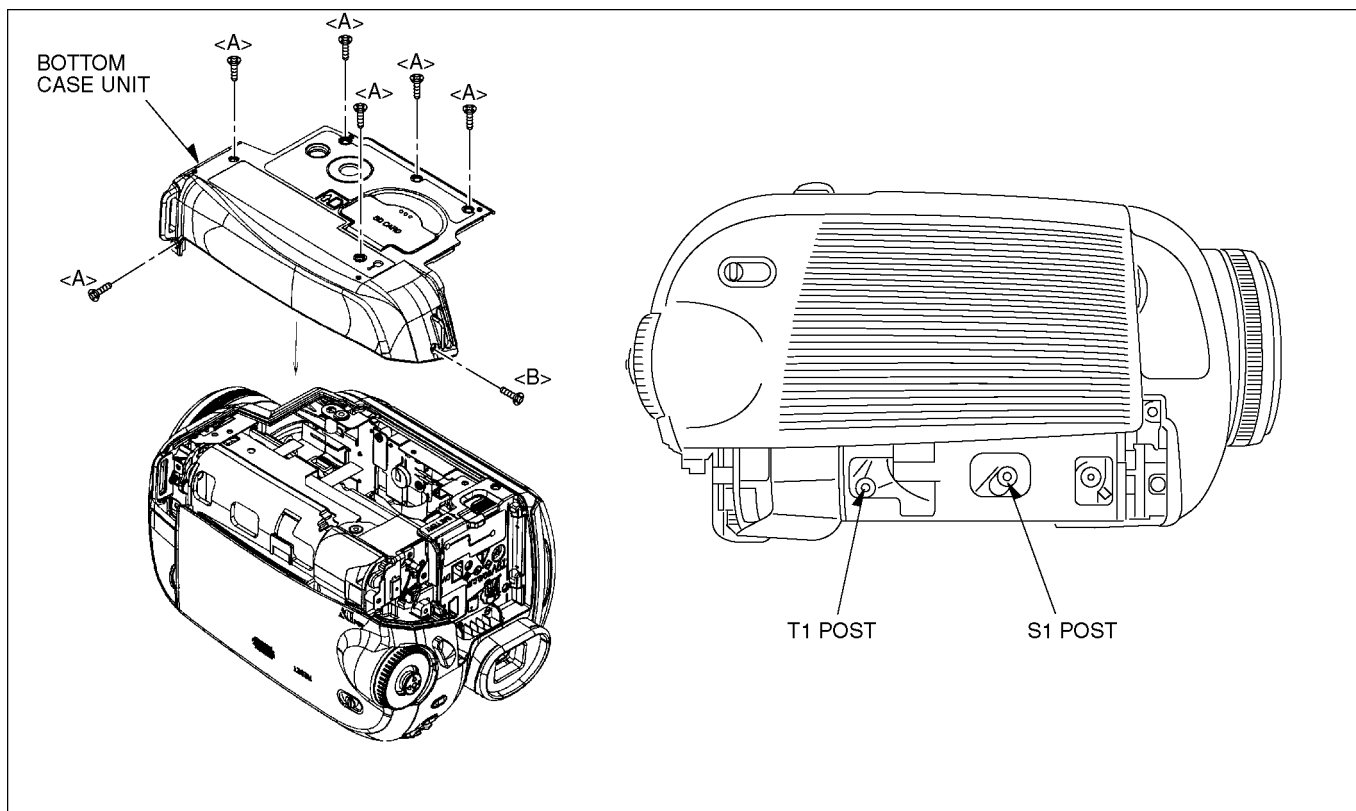

Fig. D1
1. Remove the 6 Screws (A), 1 Screw (B) and remove the Bottom Case Unit as shown in Fig. D1.